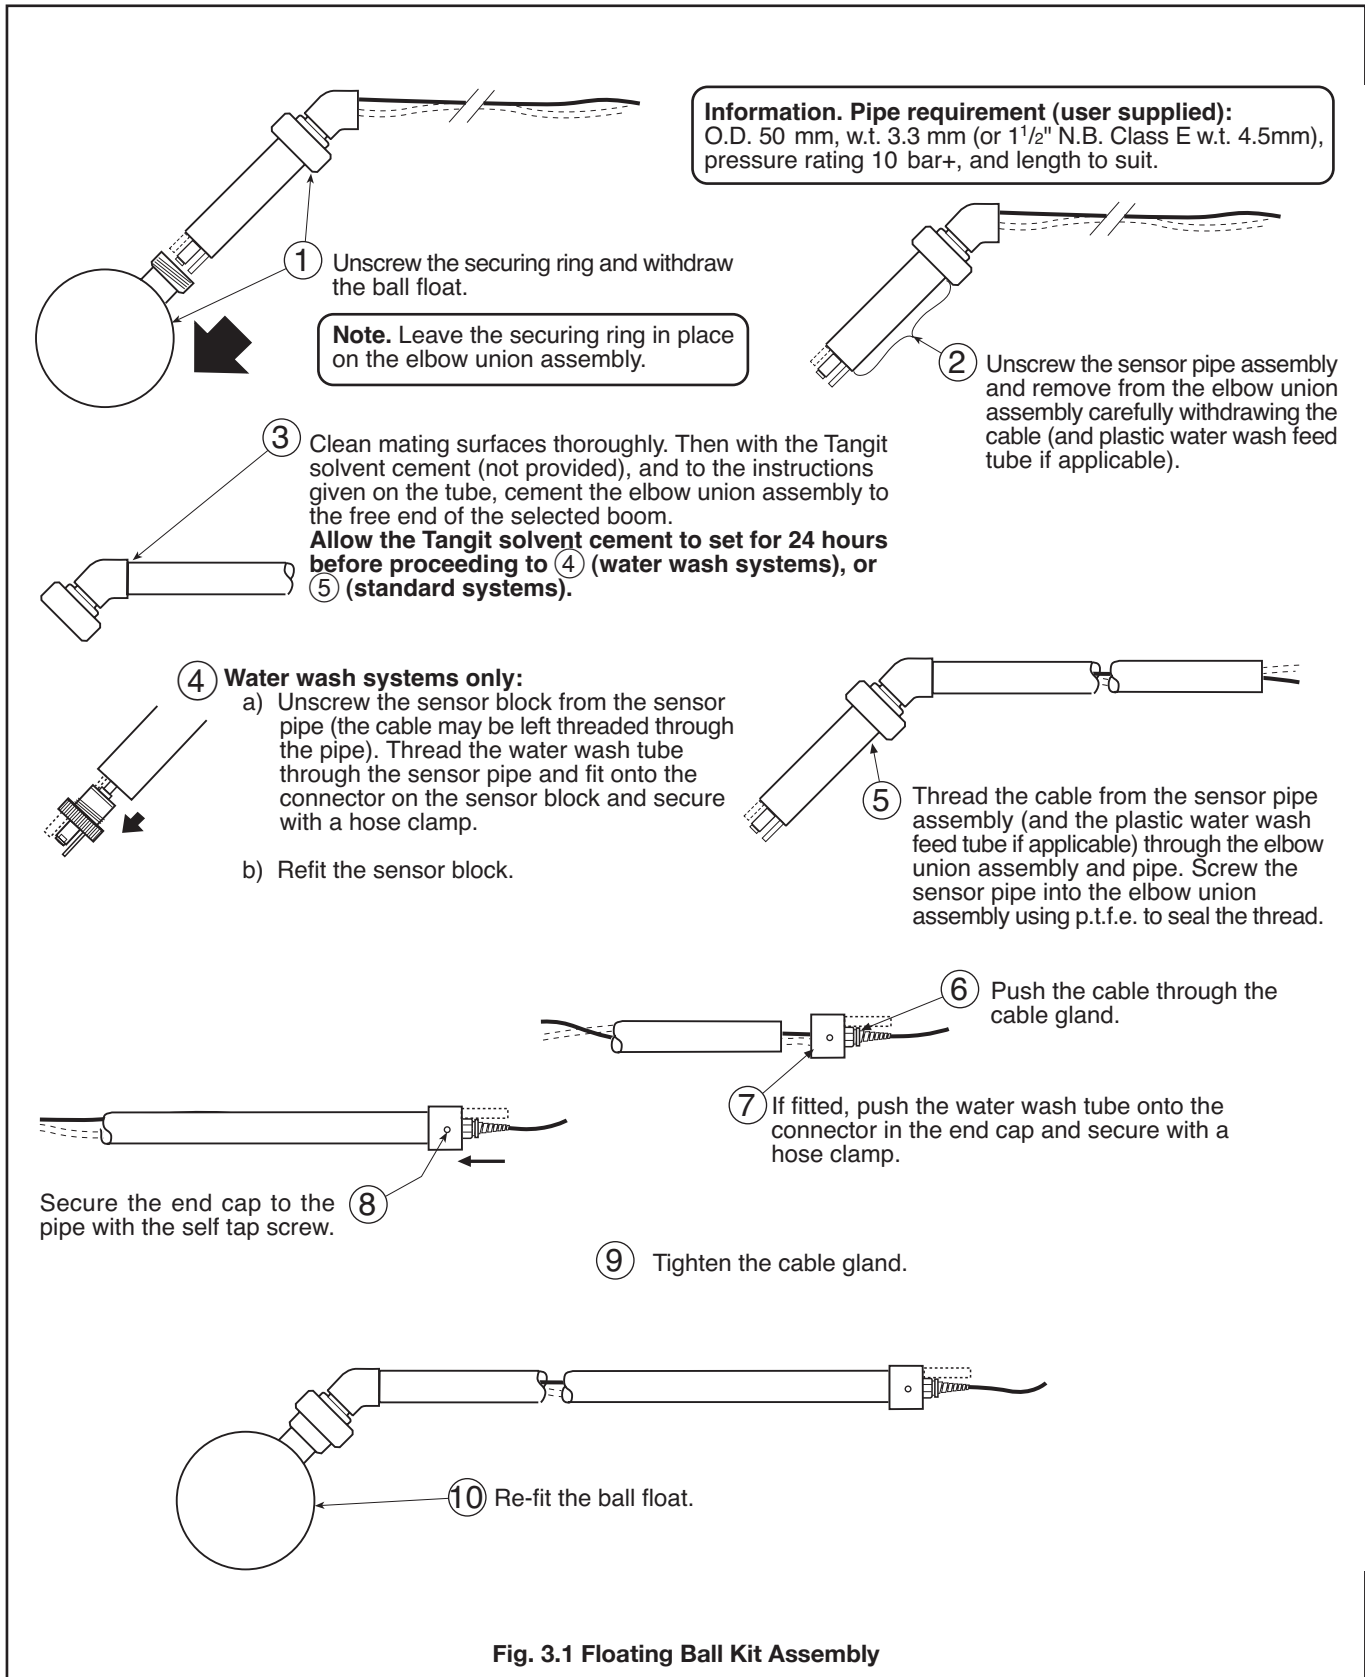

Fig. 3.1 Floating Ball Kit Assembly
3.1.1 Floating Ball – Fig. 3.1